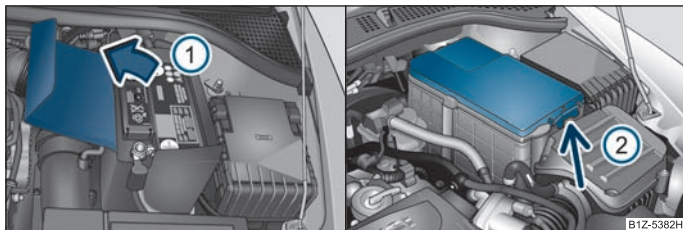

Fig. 126 Engine compartment: Polyester cover of the vehicle battery / plastic cover of the vehicle battery
The battery is located in the engine compartment under a polyester cover ⇒ fig. 126 - left, or it may be located under a plastic cover\* ⇒ fig. 126 - right.
- Open the battery cover in direction of arrow  ⇒ fig. 126 or press the elastic interlock  on the side of the battery cover, fold the cover up and remove it.
The edge of the battery cover ⇒ fig. 126 - left is inserted between the battery and the side wall of the battery cover when working on the battery.